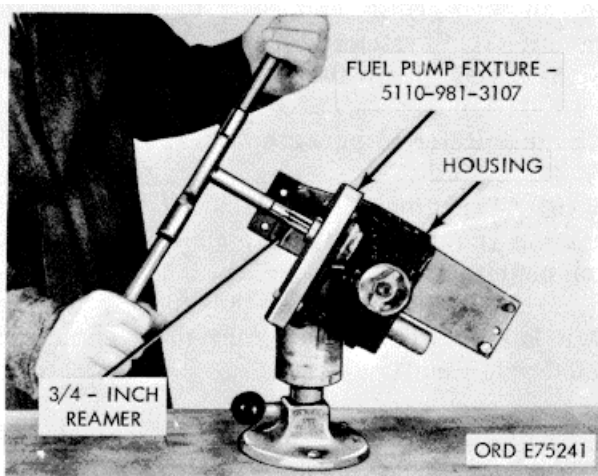

Figure 3-86. Reaming mainshaft bushing.
(2) Drive out worn bushing using a gouge chisel and mallet.
(3) Apply thin coat of high pressure lubricant and press bushing flush into housing bore using arbor press.
(4) Attach fuel pump fixture (42, fig. B-28) as shown in figure 3-86.
(5) Line ream bushing to 0.7495/0.7505 inch.